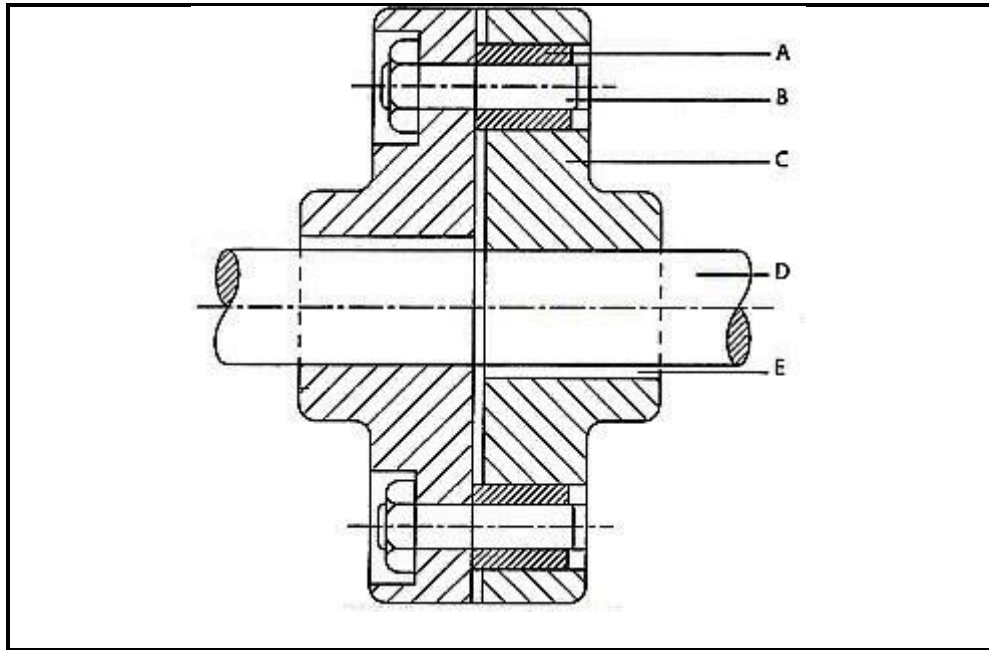

FIGURE 2
2.1.1 Name the type of coupling shown in FIGURE 2. (1)
2.1.2 Label the components of the coupling shown in FIGURE 2 (above) by writing only the answer next to the letter (A–E) in the ANSWER BOOK. (5 × 1) (5)